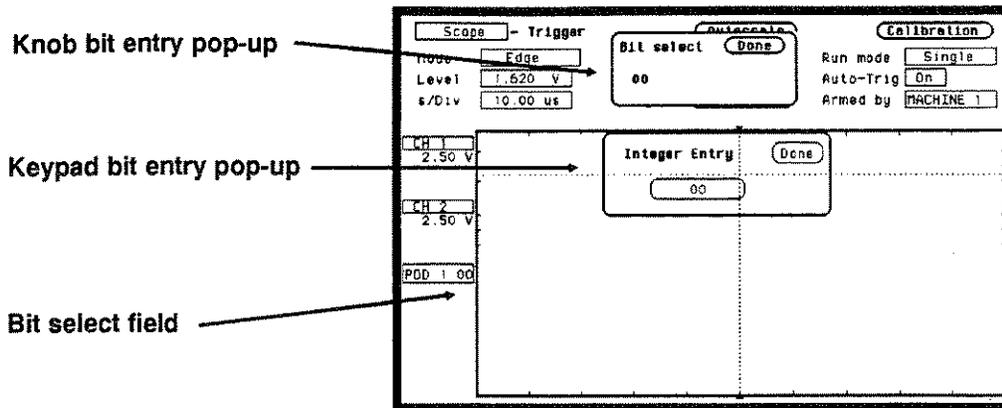

Figure 26-8. Knob And Keypad Entry Pop-ups
6. Each pod that is inserted, will have the bit number incremented by one, starting from "00". To modify the bit number, select the Bit select field which is just to the right of the Pod number. See the Bit selection field in figure 26-8.
7. When the Bit select pop-up appears, enter the bit number you want by rotating the knob or by using the keypad. The keypad will appear when the first key is touched. See figure 26-8.